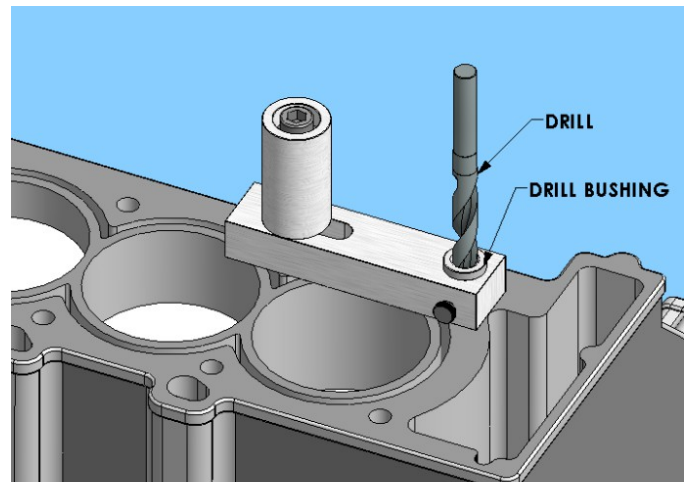

FIGURE 2A
3. **Figure 2A**- Drill the holes using the 17/32" Drill Bit that comes in the kit. Use light penetrating oil to keep the drill lubricated. Retract the drill several times to clear the chips from the Drill Bits flutes. After you have drilled to the specified depth, you can remove the Drill Bushing from the Jig, then drill the remainder of the hole without it. This will allow for more chip clearance. Drill to the depths specified. Do not force the drill if it bottoms out.